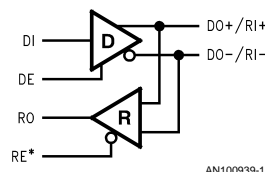
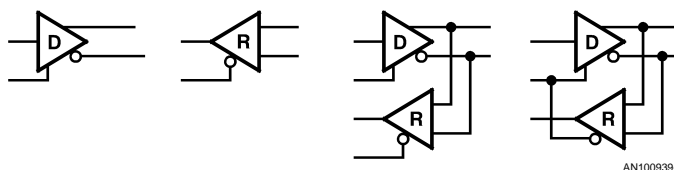

FIGURE 1. DS92LV010A Bus LVDS Single Transceiver
FIGURE 2. Device Configurations
The DS92LV010A is a highly versatile 8-pin compact device. It provides one line driver and one receiver with common bus pins. The common bus I/O pins reduce bus loading to a minimum (5 pF typical). The logic side of the device supports four pins for maximum flexibility. The four pins are driver input (DI), driver enable (DE) – active high, receiver output (RO), and receiver enable (RE*) – active low. The four inputs are CMOS inputs with TTL compatible thresholds. They also present high impedance in power-off conditions and will not load down the driving gate. The block diagram is shown in Figure 1. This allows the device to be configured as a driver, a receiver, or a transceiver. Both the driver and receiver functions can be enabled simultaneously to support a loop back function. Or, the DE and RE* pins may be tied together to form a direction control pin. The possible configurations are shown in Figure 2.